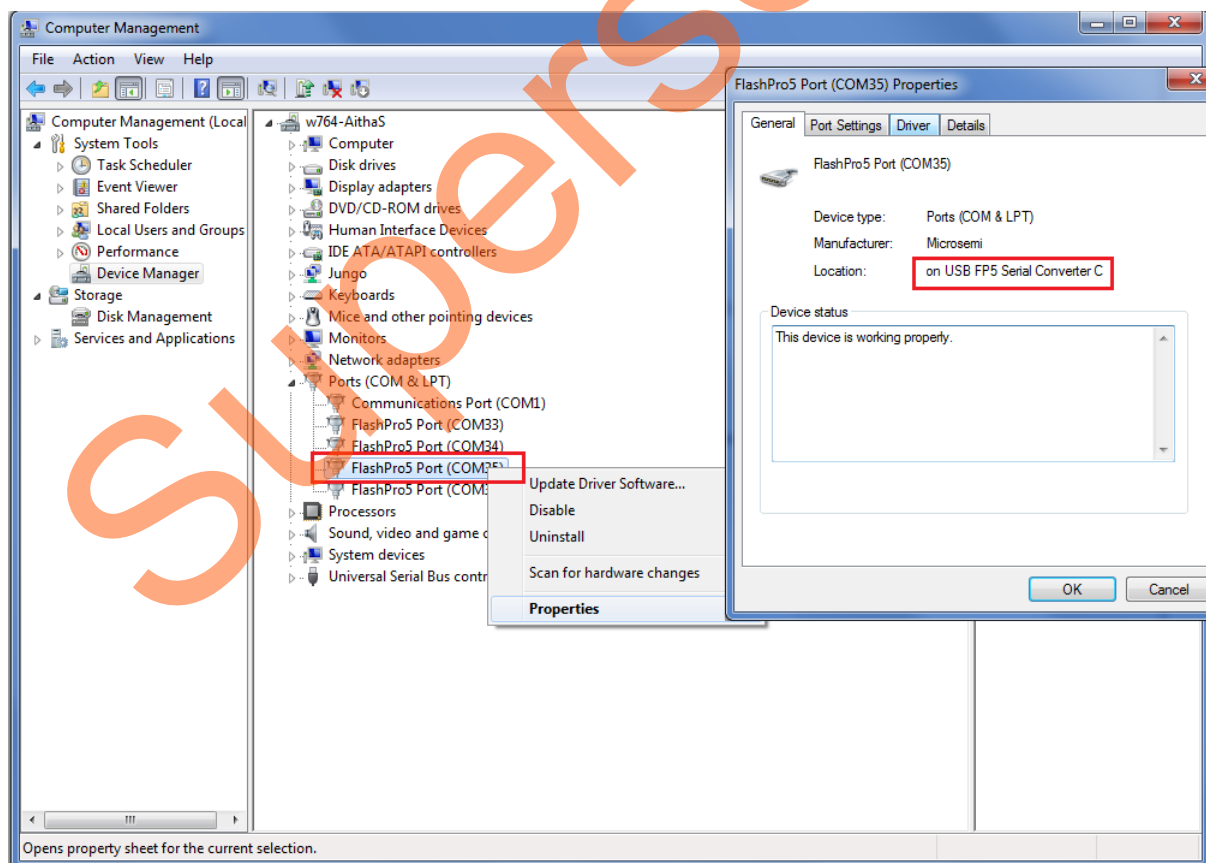

Figure 6 • Device Manager Window
2. From the detected four COM ports, right-click any one of the COM ports and select **Properties**. The selected COM port properties window is displayed, as shown in Figure 6.
3. Ensure to have the **Location** as on **USB FP5 Serial Converter C** in the **Properties** window as shown in Figure 6.